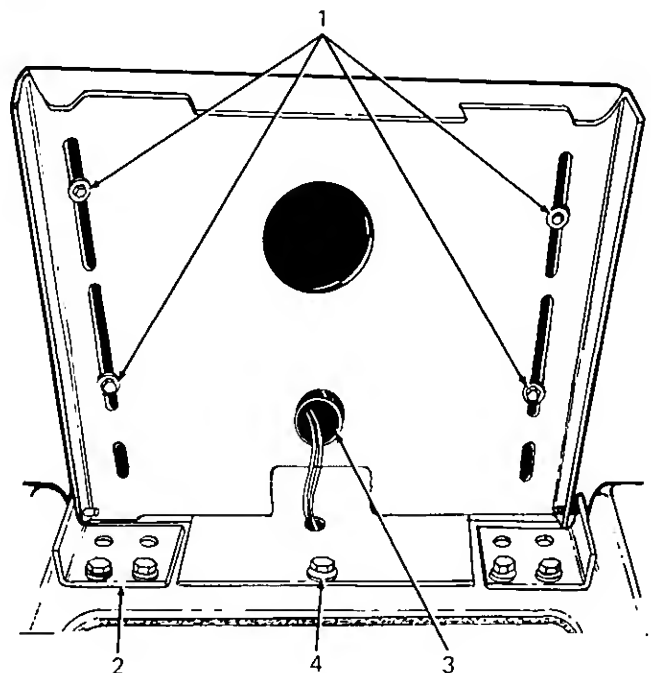

Figure 16
Before starting the tractor, adjust the seat to the most comfortable driving position. Tilt the seat forward over the steering wheel, loosen the four cap screws in the seat support, and slide the seat assembly forward or rearward to the position which is most comfortable for the operator. (Refer to Figure 16.)
2. Remove screw and flat washer from frame cover as shown in Figure 16.